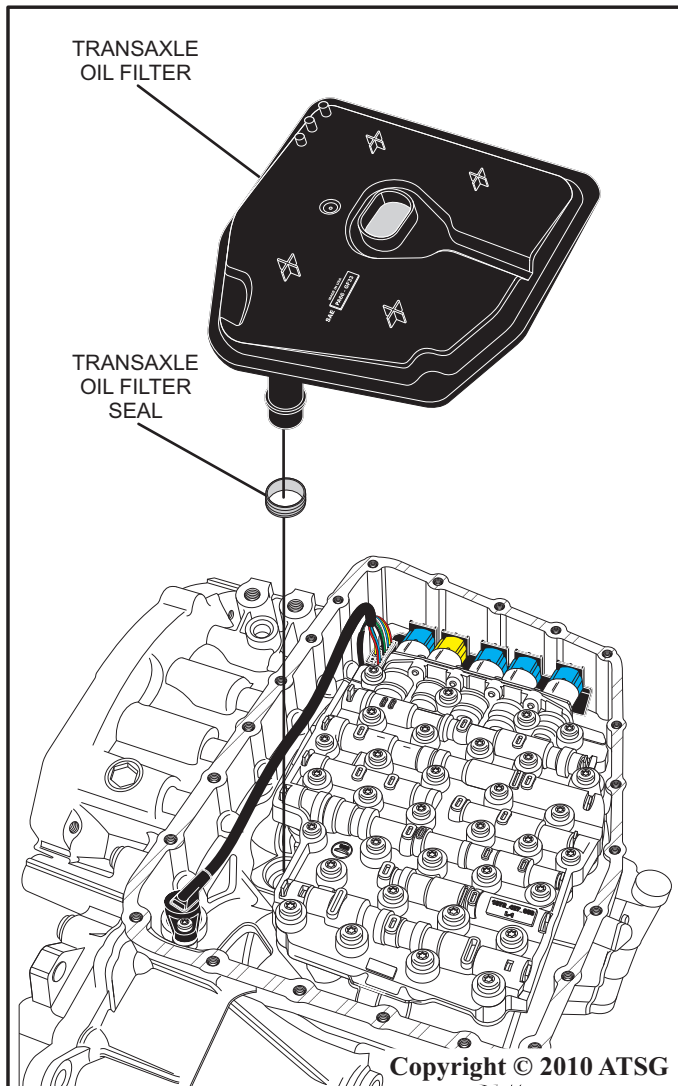

Figure 32
78. Install a new transaxle oil filter and transaxle oil filter seal as shown in figure 32.